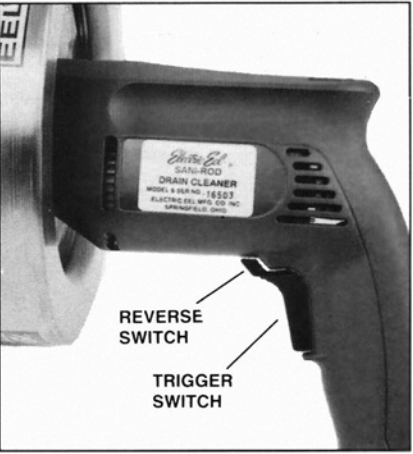

Figure 3
CAUTION: Make sure **TRIGGER SWITCH** on tool is **OFF**, (see Fig. 3). Make sure that you are plugging into a household 120 Volt ground fault interrupter circuit.
- 1. Squeeze **TRIGGER SWITCH** (Fig. 3), to start motor. Release trigger switch to stop motor. The motor speed will increase the more the trigger switch is squeezed.
- 2. The **REVERSING SWITCH** is located above and in front of the trigger 1. switch, (see Fig. 3), and changes the direction of rotation of the cable.